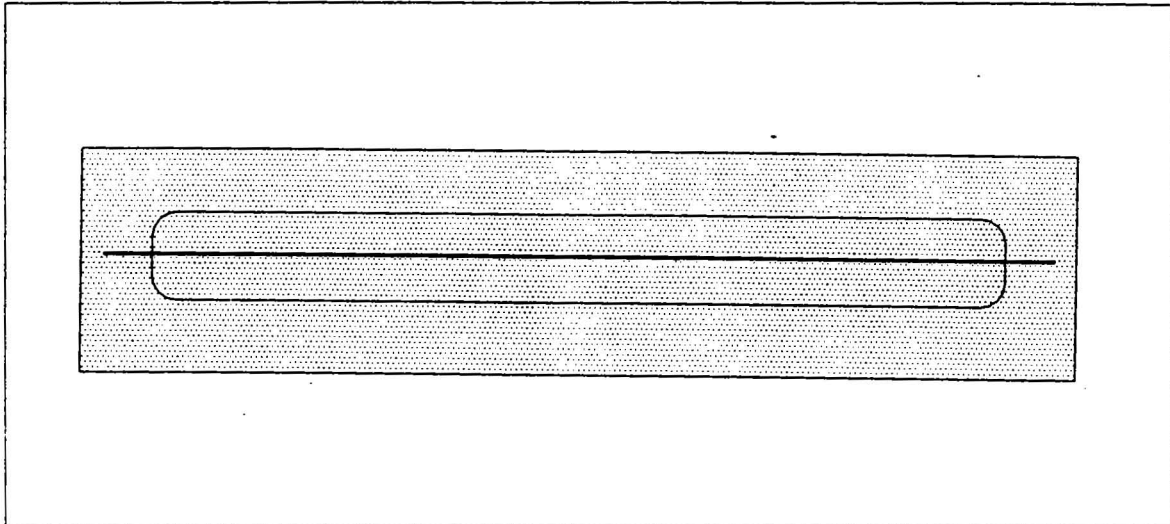

Fig. 5-5 Light Scatter at F2
4. A bright sharply focused line should be present at the center of the fiber-optics bundle. This point is known as F2, focal point 2. See Fig. 5-5.